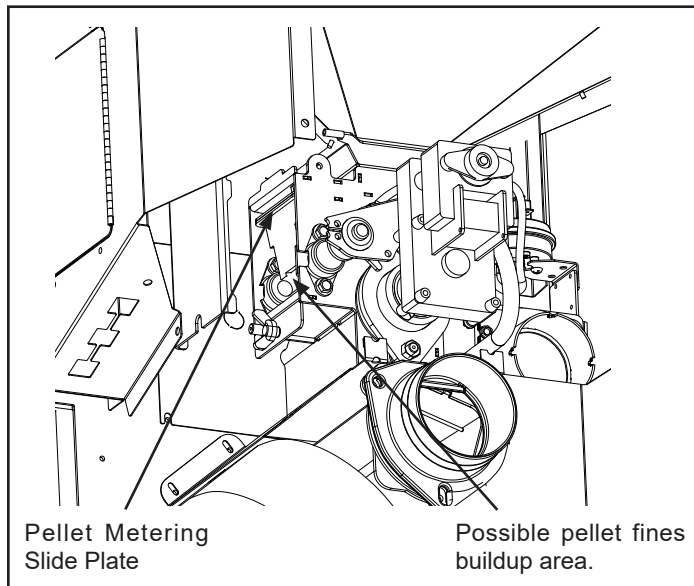

Figure 5.9
- Inspect and clean the inner chamber if necessary Figure 5.9.